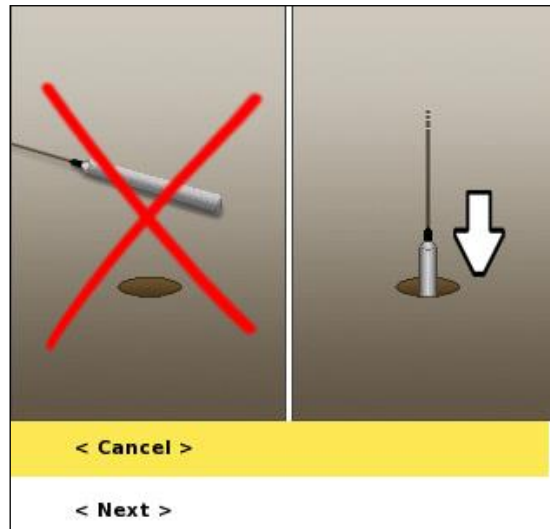

Figure 87 First Check level dialog
- The first dialog (Figure 87) instructs the user to lower the probe into the well